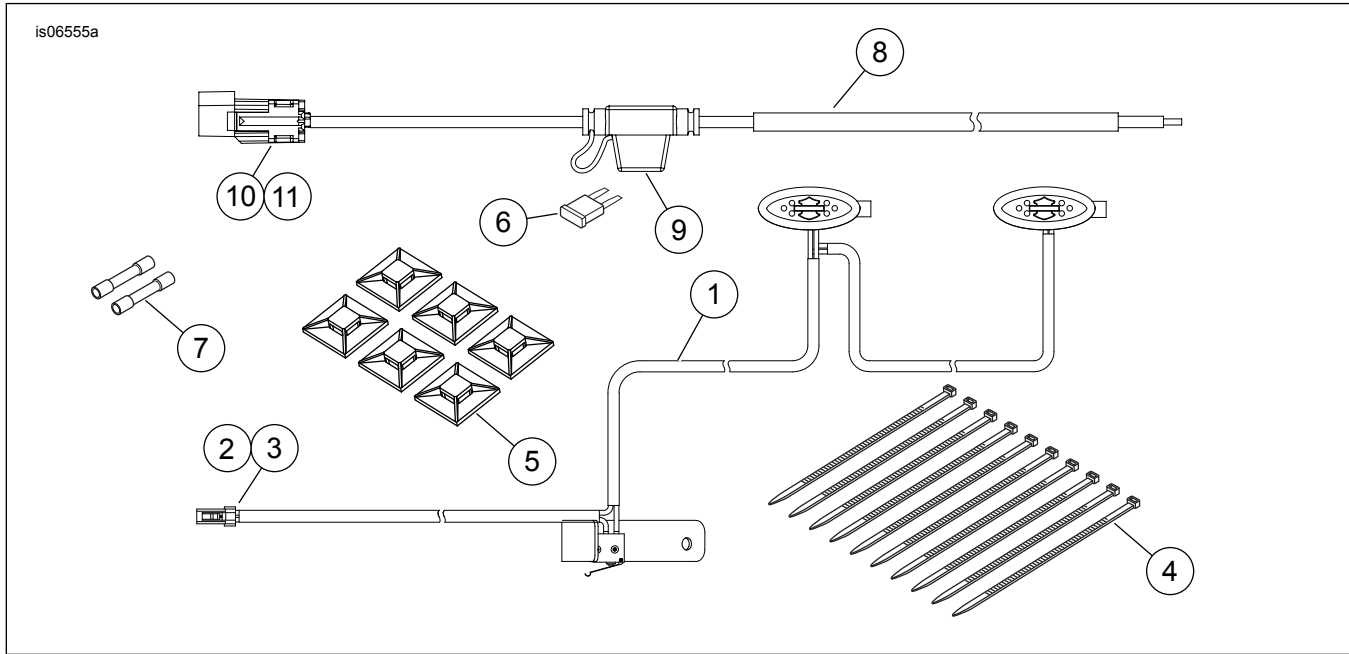

Figure 7. Service Parts, Trike Trunk Interior Light Kit
See Figure 7 and Table 1.
8. See Figure 7. Install a wire clip (5) as needed under the trunk light wire harness inside the trunk. Secure the harness to the wire clip with a cable strap (4). Repeat step as necessary until the harness is secure.
- c. See the service manual to remove the 2-way socket housing (Figure 7, Item 2) from the trunk light harness.
- i. See the service manual. Use a sealed splice connector (Figure 7, item 7) to splice the license plate harness black wire to the trunk light harness black wire.
- m. See Figure 7 and the service manual. Connect the power harness (8) to the B+ connector [160B] in the area under the seat.
- o. See the service manual to remove the 2-way socket housing (Figure 7, Item 2) from the trunk light harness.
- t. See the service manual. Use a sealed splice connector (Figure 7, item 7) to splice the red wire of the trunk light harness to the power harness (8) wire. Use the remaining sealed splice connector (7) to splice the license plate harness black wire to the trunk light harness black wire.
- v. Install the 2 Amp fuse (6) into the inline fuse holder of the power harness.